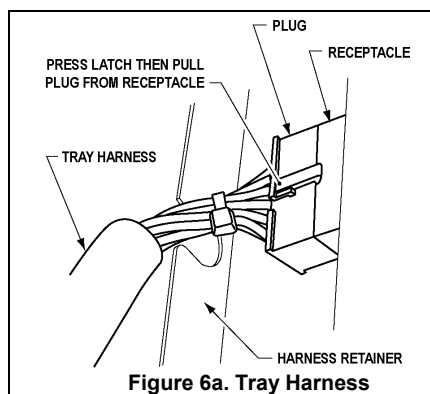

Figure 6a. Tray Harness
2. Disengage the tray harness from its retainer on the right side wall. See Figure 6a on page 9. Disconnect the tray plug from its receptacle on the right side wall.
8. Re-engage the tray harness into its harness retainer. See Figure 6a.
2. Locate the harness retainer on the right sidewall. (Figure 6a). Pull the tray harness out of its retainer.
2. Disengage the tray harness from its harness retainer on the right side wall. See Figure 6a on page 9. Disconnect the tray plug from its receptacle on the right side wall.
6. Extend the slides all the way to the front and reinstall the tray. Install the four (4) nuts underneath the drawer slides.
7. Reattach the tray harness to its harness retainer on the right side wall. Connect the tray plug to its receptacle on the right side wall. See Figure 6a.